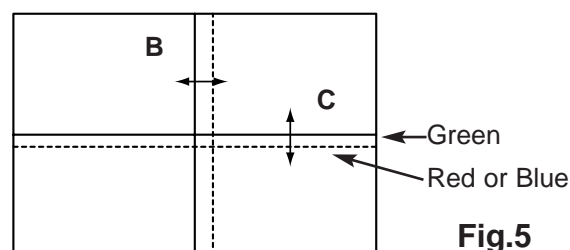

Fig.5
4. Turning screw "B", align the Red (or Blue) vertical lines onto the Green vertical lines (**Fig.5**).
5. Turning screw "C", align the Red (or Blue) horizontal lines onto the Green horizontal lines (**Fig.5**).
1. Adjustment screw "A" turns the image (**Fig.5**).